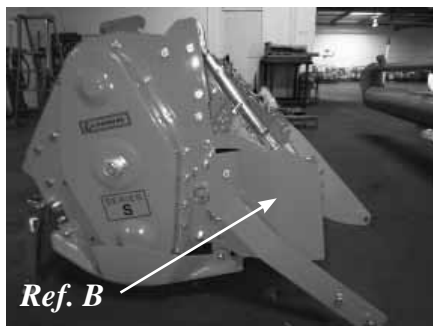

Fig. 3
- STEP 3 -** Mount RH/LH deflector plate (*Ref. B - Fig. 3*) to tiller side plates.